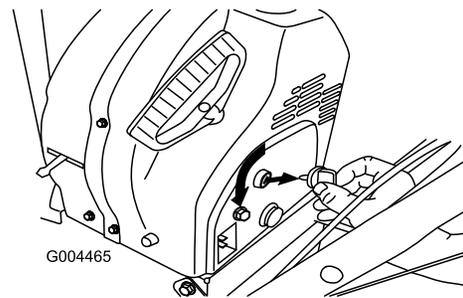

Figure 25
- Turn the ignition key to the Off position (Figure 25).